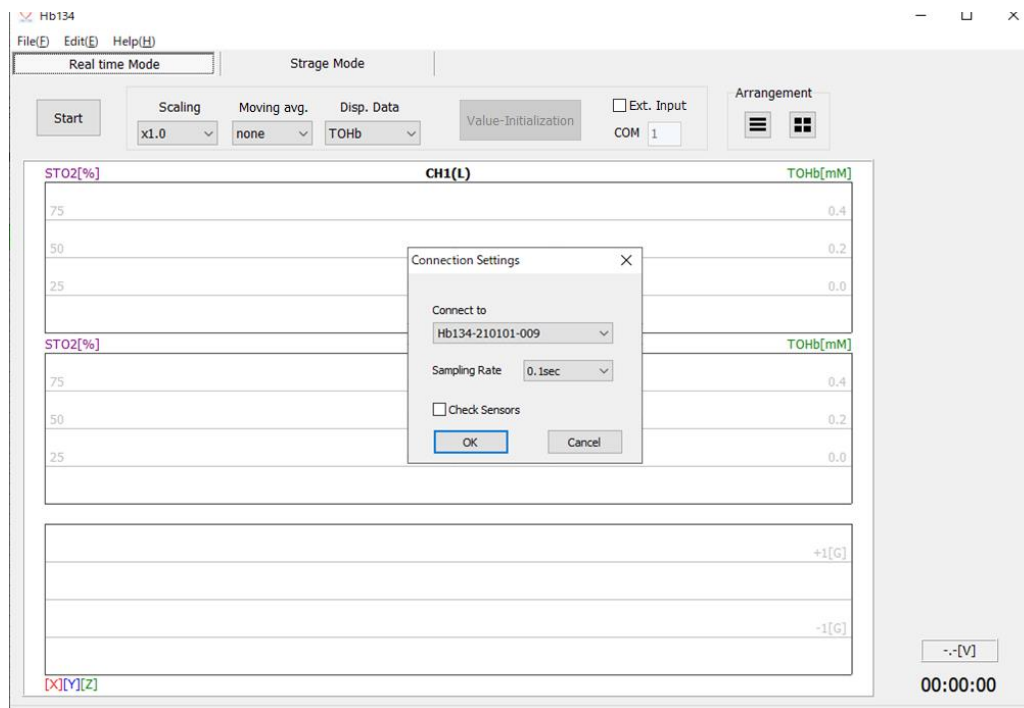

Figure 1. Connection settings
- (1) Start the measurement display program.
- (2) Click “Start” in the upper left and choose the device to connect from the pull-down list for “Connect to” (a dialog pops up in the middle of screen). The serial number is assigned to each Hb134 device (same serial number as displayed when adding a Bluetooth device) (Figure. 1).
- (3) Choose a preferred sampling rate and click “OK”. Sampling rate is an interval for sampling data. If the measurement rate is “0.1 sec”, it will take 10 data for 1 second. Measurement rate can be selected from “0.1 sec”, “0.2 sec”, “0.5 sec”, “1.0 sec”, and “5.0 sec”.